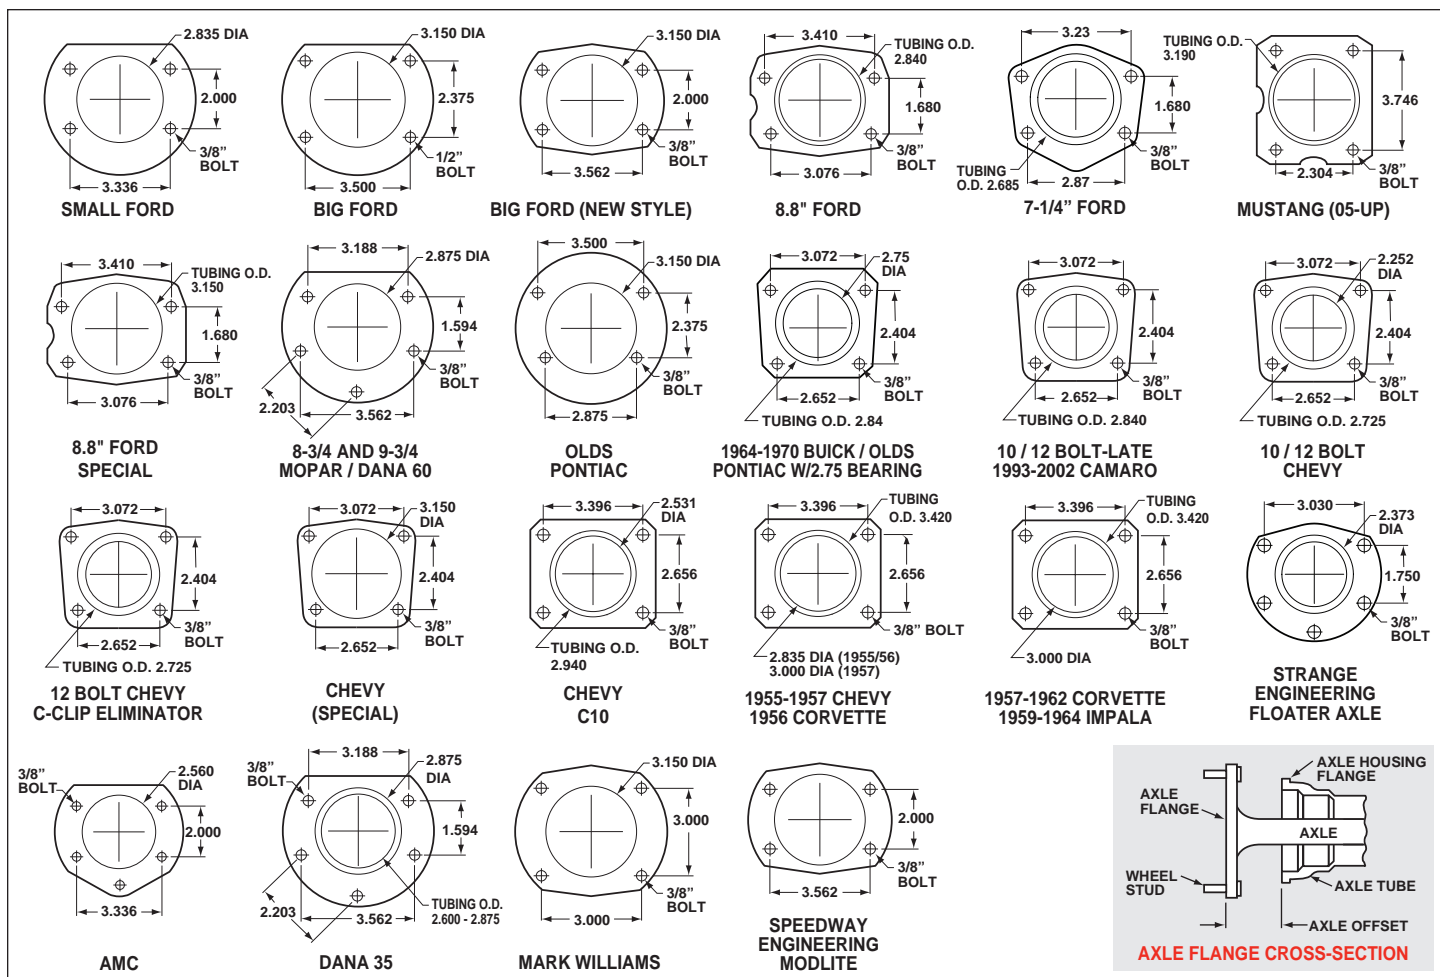

Figure 8. Rear Housing Flange Chart and Axle Flange / Offset Cross-Section
- Make sure this is the correct kit to fit the axle housing flange, not necessarily the rear end make. Many times aftermarket manufacturers put a different make of axle housing flange on the stock rear end housing (Figure 8). Example; Big Ford rear ends with Olds-Pontiac flanges, therefore, an Olds-Pontiac rear disc brake kit would be the correct kit to order. Also, shock clearance may be a problem. They may have to be modified and/or relocated to clear the Wilwood kit after final assembly.
- Dimension from wheel side of axle flange to wheel side of axle housing flange (see Figure 8, lower right hand corner). This dimension is critical to ensure proper alignment of the rotor to the caliper, and should match offset given in the kit description.